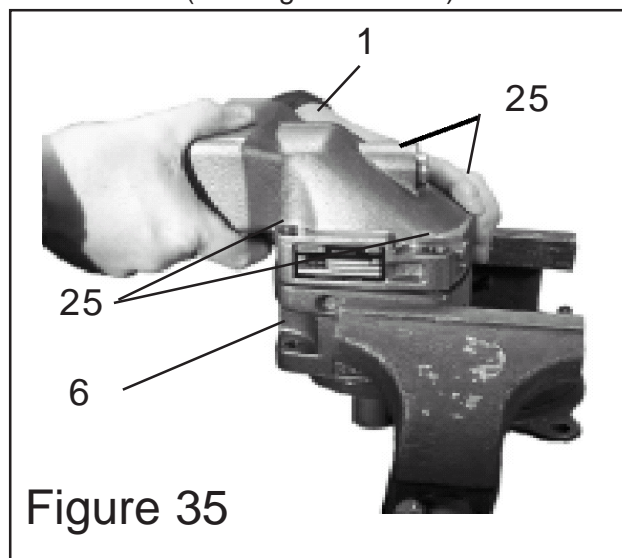
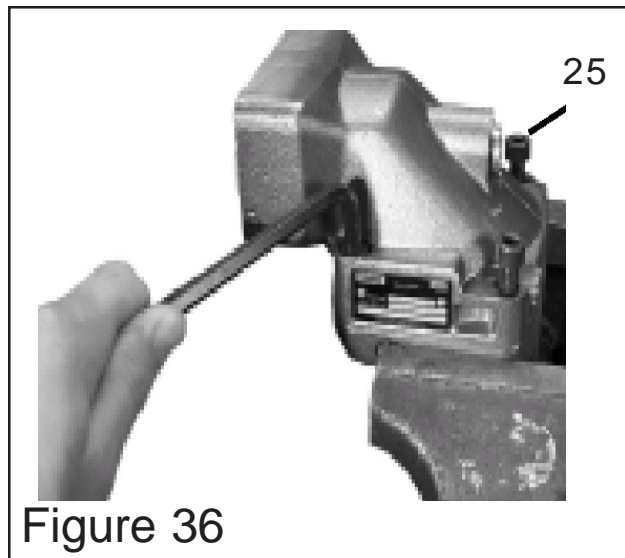

Figure 35
Figure 36
17. Install Barrel Housing. Clamp Bearing housing and Shaft assembly back into the vise. With the barrel housing assembly turned up as shown in figure 35. Make certain the Valve plate (item 2) is installed inside the barrel housing and facing the correct direction. Make certain the Shims (item 24) are still installed on the Bearing housing. Sit the barrel housing (item 1) down over the bearing housing (item 6). Install the four bolts (item 25), and Torque these four bolts using an alternating pattern to 75 ft. lbs. +/- 7 ft lbs (See Figure 36)